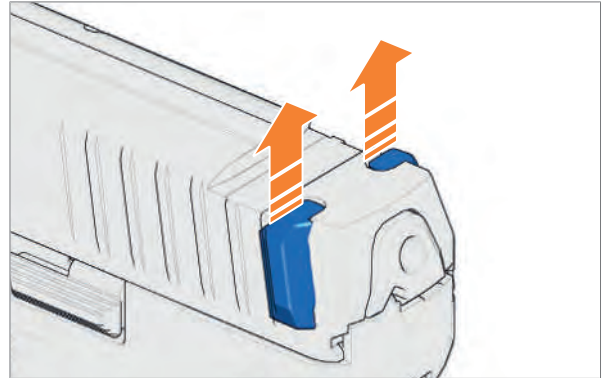

Fig. 35: Remove charging supports
2. Remove charging supports (*Fig. 35*).